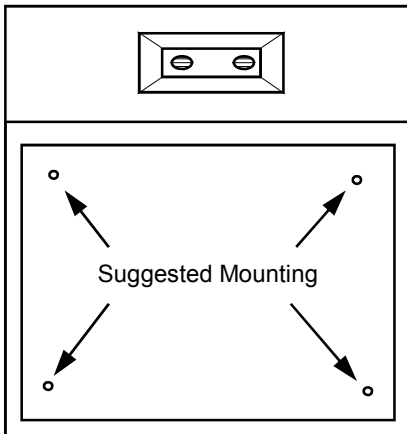

Figure 1
- 3) Figure 1 below shows 4 mounting holes intended for cabinet mounting. It is recommended that fasteners are utilized in all 4 holes. Position the cabinet such that a minimum of 2 fasteners attach to studs or concrete. See Mounting Height Guidelines below for determining height.